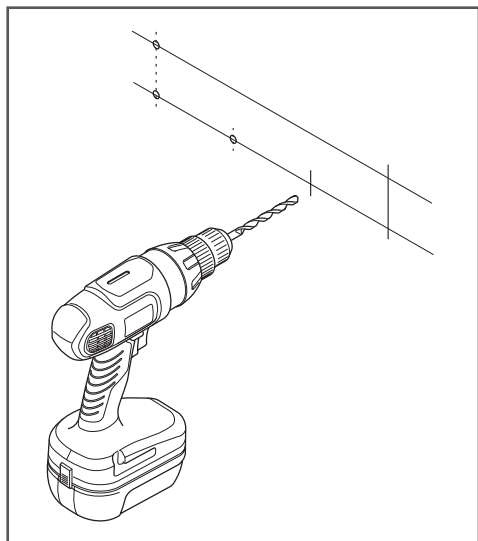

Figure 3
5. Drill out the marked intersecting lines using a drill with a 1/4" drill bit (Figure 3).